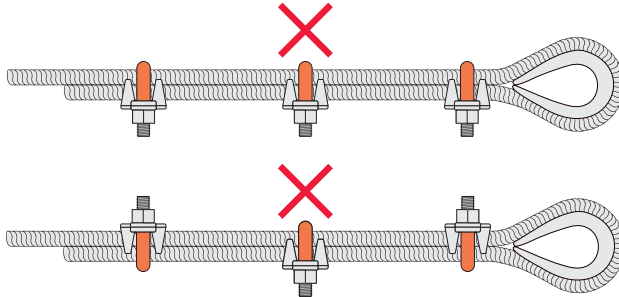

Figure 6.: "Never put the saddle on the dead-end."
- Incorrect placement: Always place the saddle on the live end of the rope – "Never put the saddle on the dead-end." (see Fig. 6).